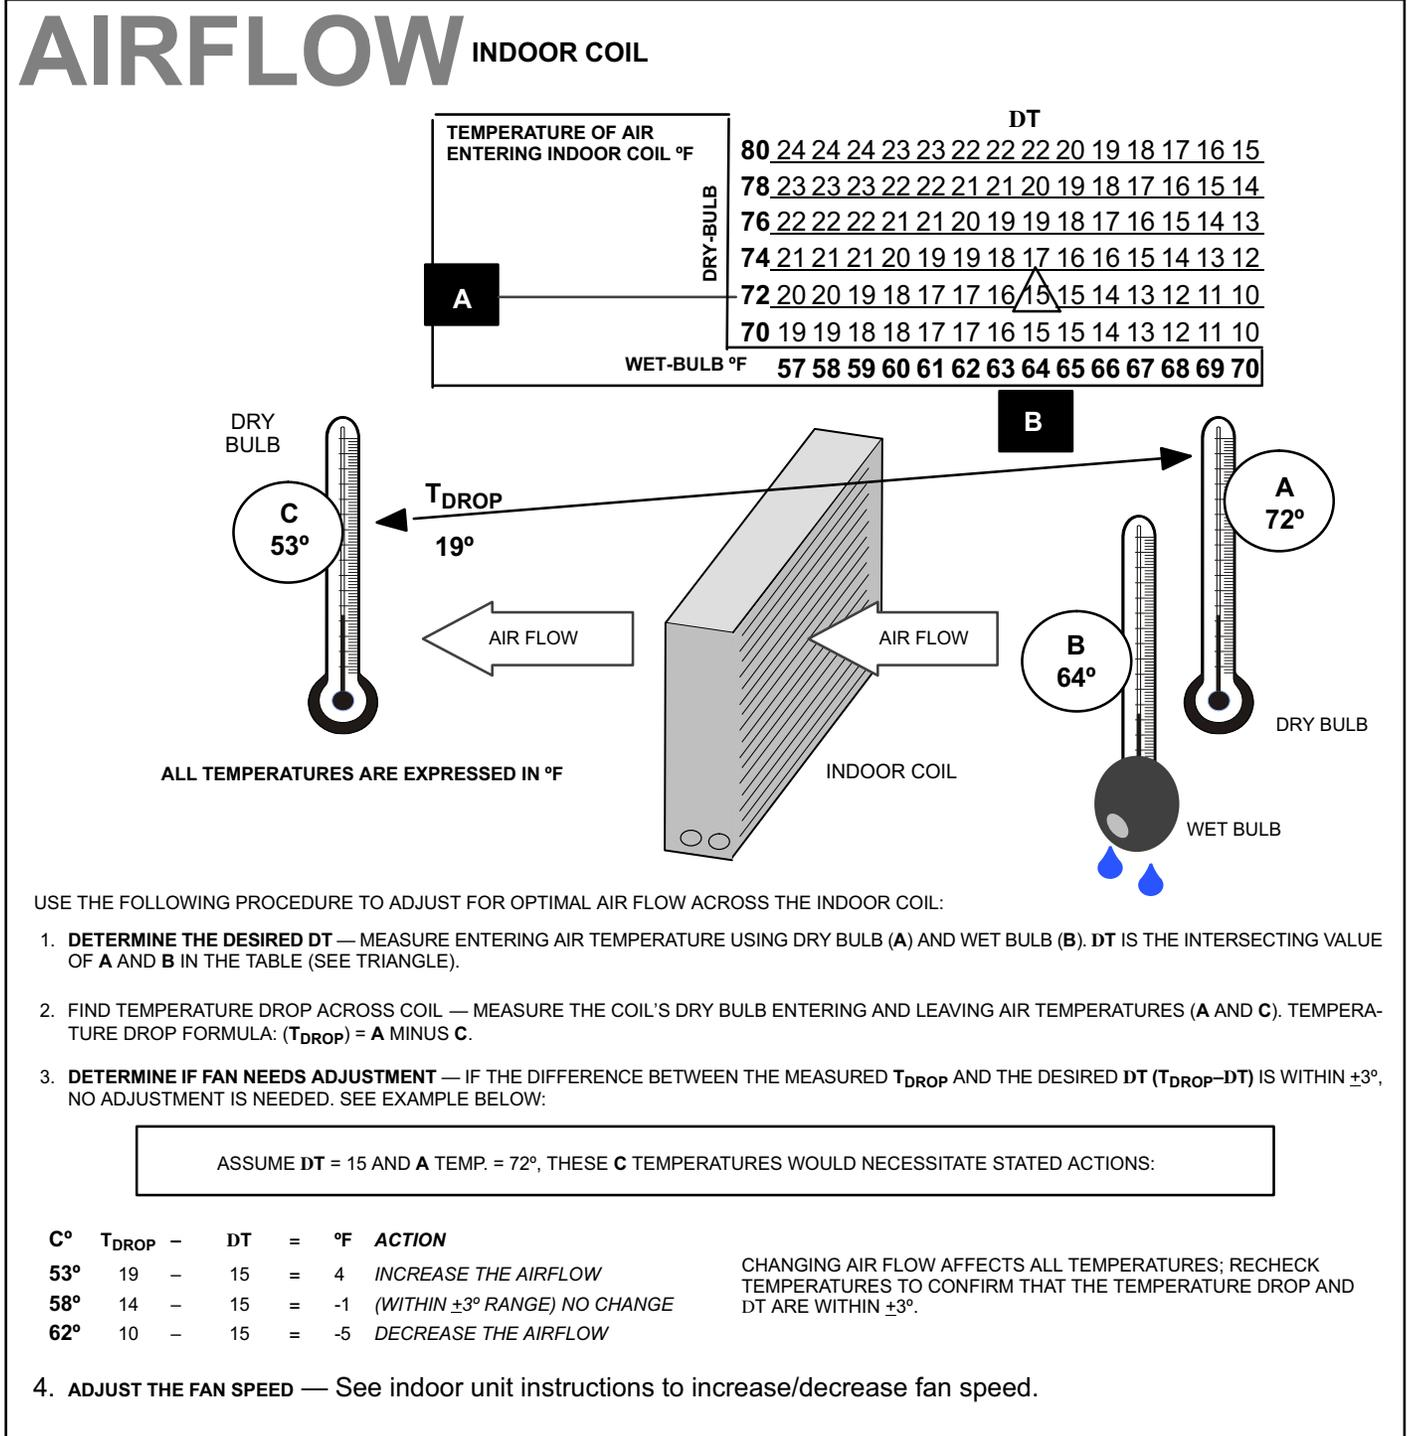

Figure 17. Checking Indoor Airflow over Evaporator Coil using Delta-T Chart
2. Checking and adjusting indoor airflow as described in figure 17.
Check airflow using the Delta-T (DT) process using the illustration in figure 17.
- CHECK THE AIRFLOW AS ILLUSTRATED IN FIGURE 17 TO BE SURE THE INDOOR AIRFLOW IS AS REQUIRED. (MAKE ANY AIR FLOW ADJUSTMENTS BEFORE CONTINUING WITH THE FOLLOWING PROCEDURE.)